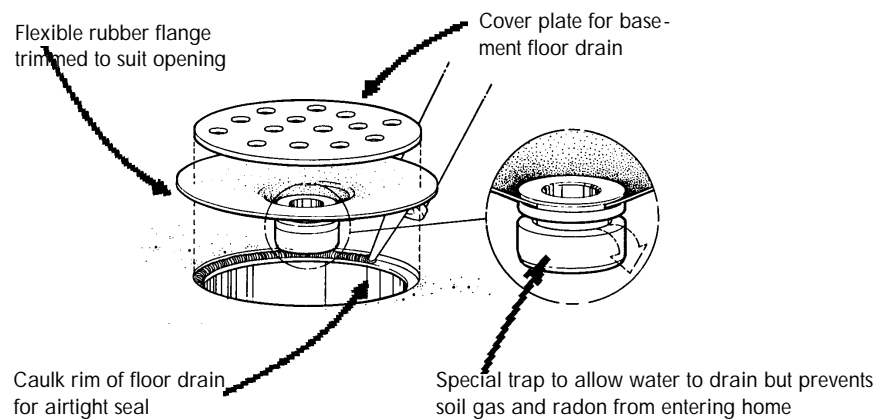

Figure 9: Trap for existing floor drains
- **Floor drains** – Basement floor drains can have special traps installed that allow water to drain, but prevent radon from entering the basement (see **figure 9**). These special traps are not a substitute for a sewer back-up valve.